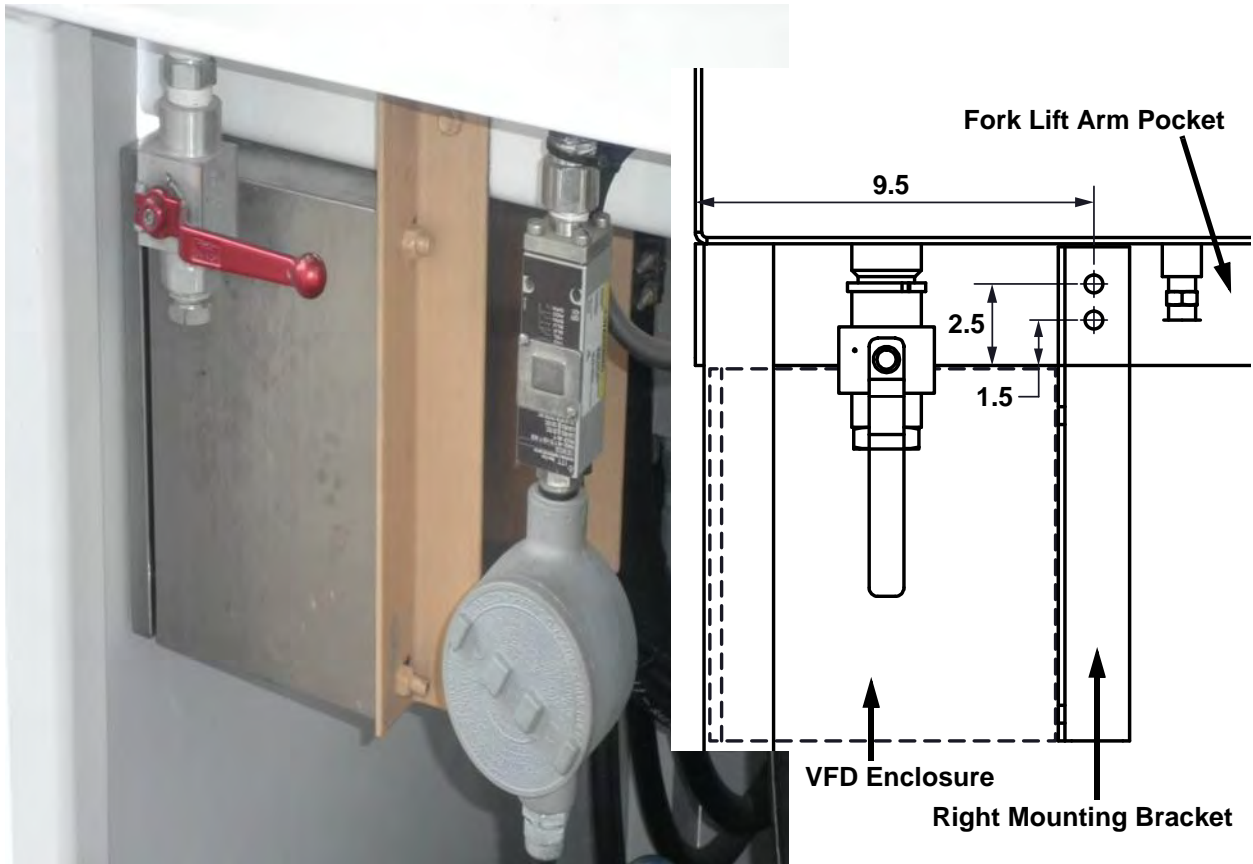

Figure 9: Installing the VFD enclosure support bracket
7. Mark the mounting holes at 9.25 inches back and 1.5 and 2.5 inches up on each side of the fork lift arm pocket (See Figure 9). Verify marks are aligned with holes in angle bracket and drill 7/16" holes at each mark. Install the angle brackets and enclosure using the 3/8" fasteners included with the kit.